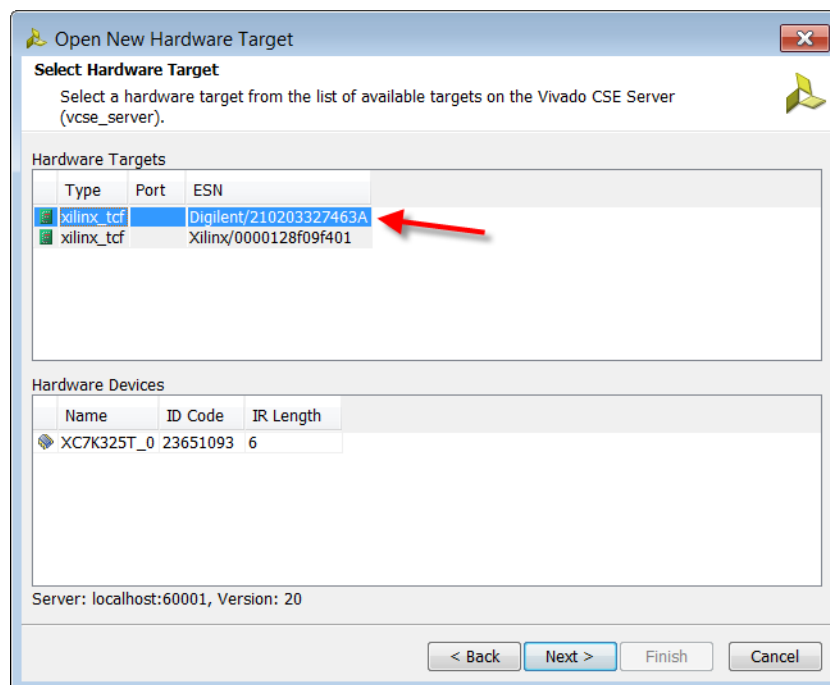

Figure 2-7: Selecting the Hardware Target
2. Select the appropriate hardware target from the list of targets that are managed by the hardware server. Note that when you select a target, you see the various hardware devices that are available on that hardware target (see Figure 2-7).